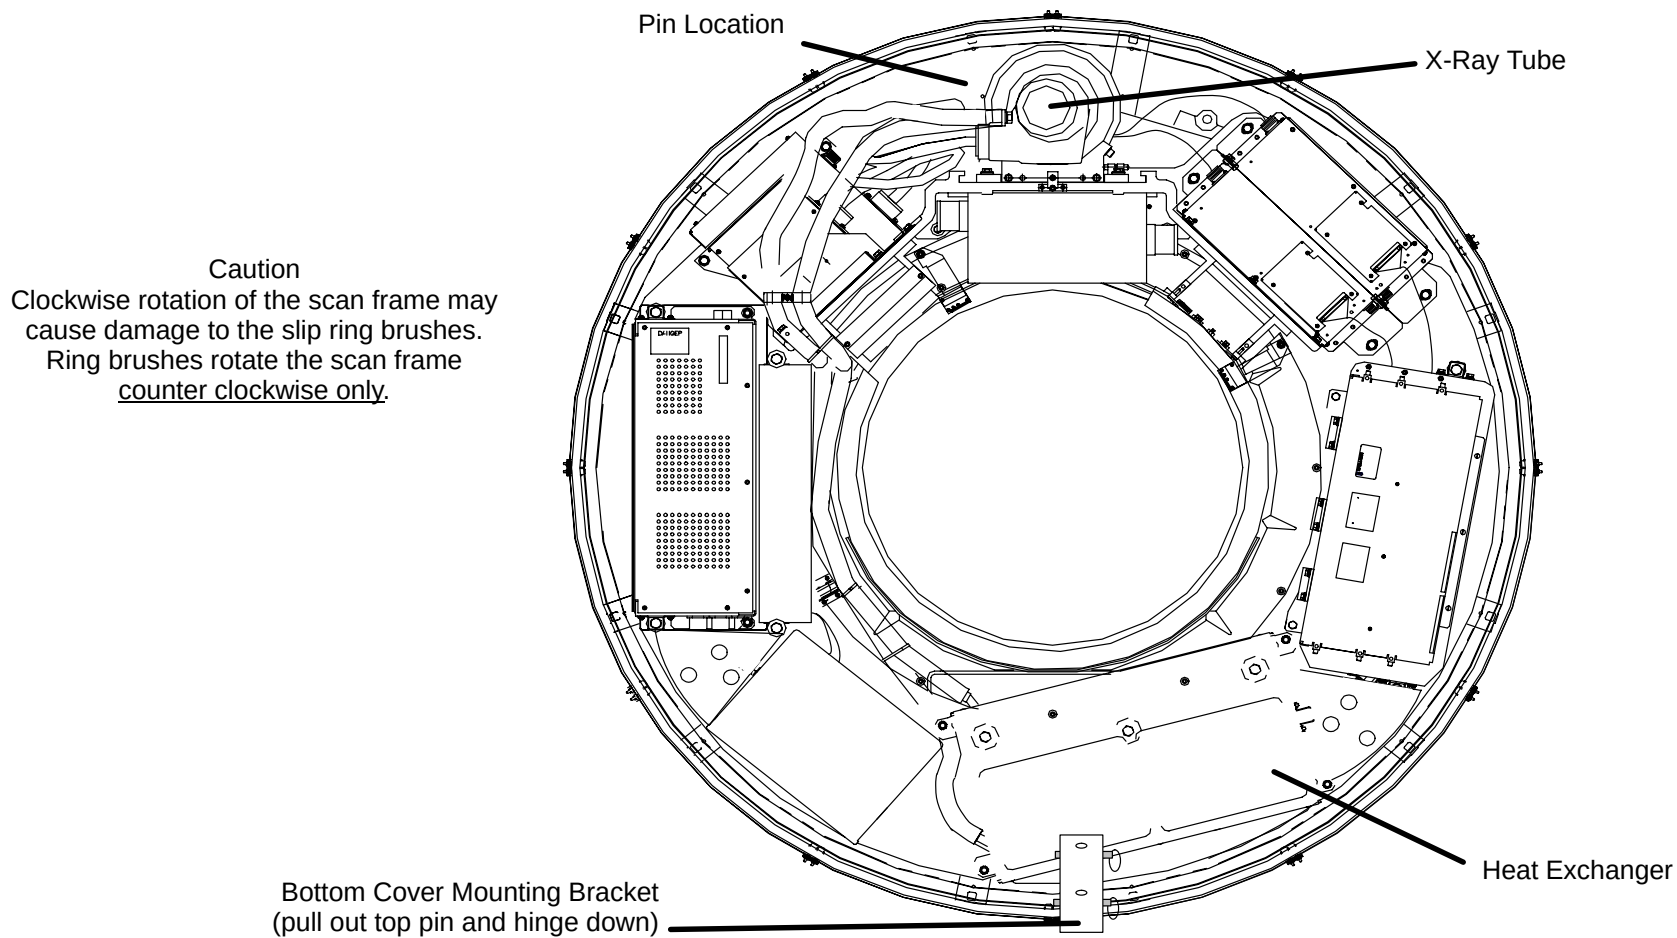

FIGURE 248 SCANNED FRAME PINNED WITH TUBE AT 12:00 POSITION
3. Rotate the Scan Frame counterclockwise by hand until the X-Ray tube is at the 12:00 position. Lock the scan frame with the locking pin. Pull the top pin out from the bottom cover mounting bracket. Push the bracket down to allow room for heat exchanger removal. See Figure 248.